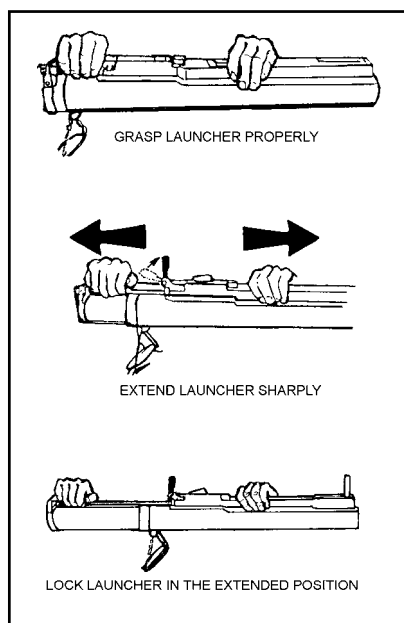
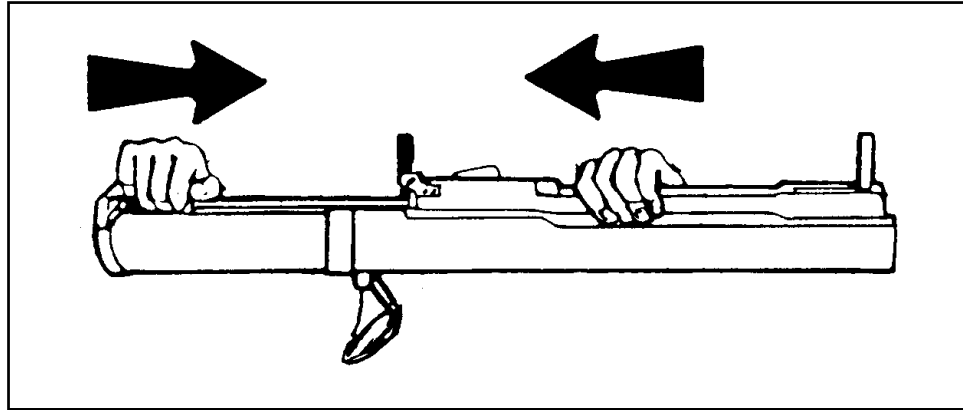

Figure 2-17. Extending the launcher.
Figure 2-18. Ensuring launcher is locked in the extended position.
(2) With your firing hand, grasp the rear sight cover; with your nonfiring hand, grasp the launcher forward of the barrel detent. Pull your hands sharply in opposite directions to extend the launcher (Figure 2-17). To ensure the launcher is fully extended and locked, try to close it (Figure 2-18).